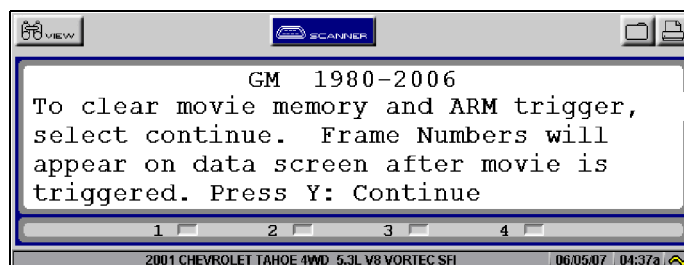

Figure 5-26 Sample On-screen instructions to arm movie trigger
3. Select the data type, if necessary, and an instructional message displays (Figure 5-26).